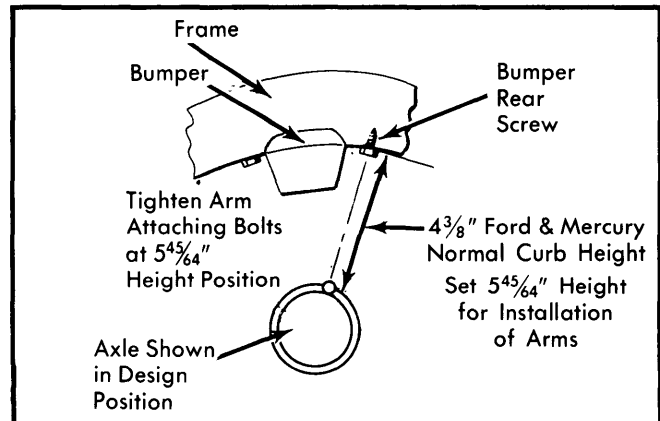

Fig. 4 Settings of Axle Normal Curb Height & Controlled Height for Arm Installation
**Adjustment** — Make sure both front and rear pivot bolts of upper and two lower suspension arms are loose. Raise axle assembly to controlled height (see Fig. 4). Hold axle at